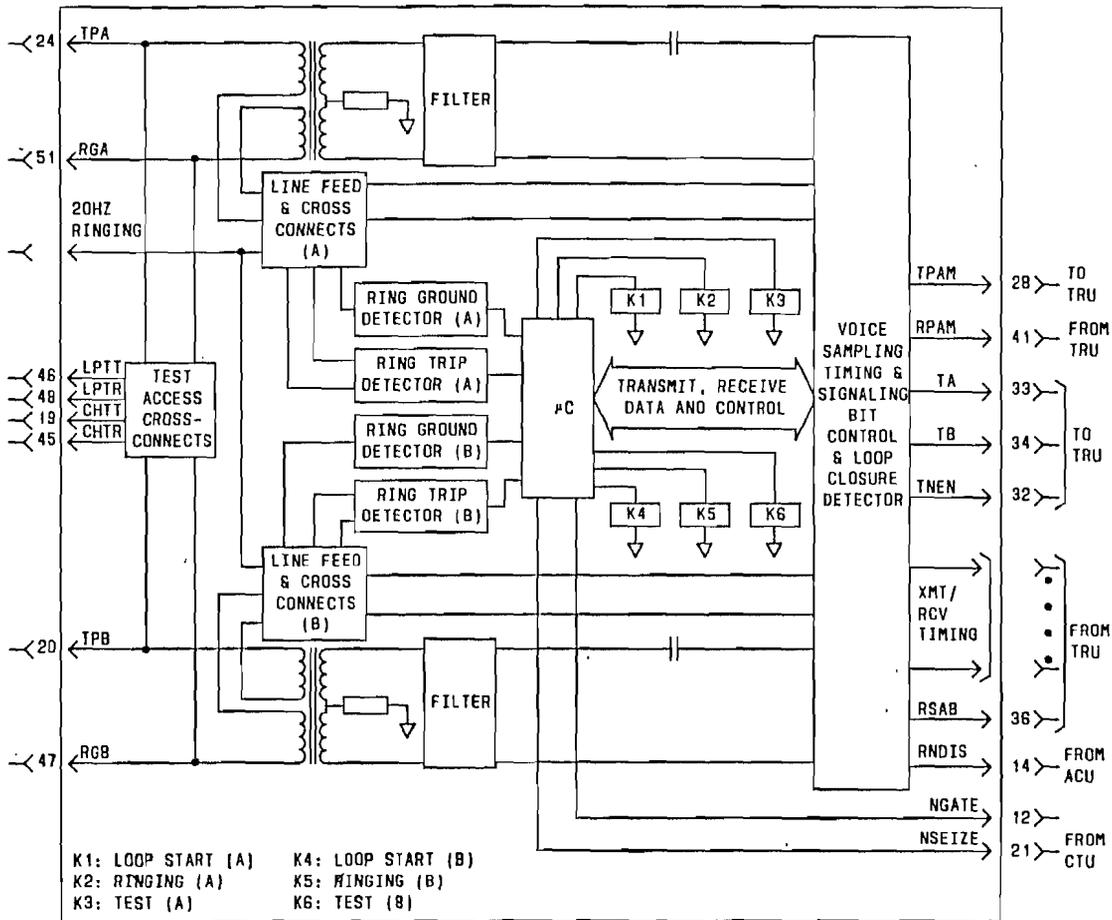
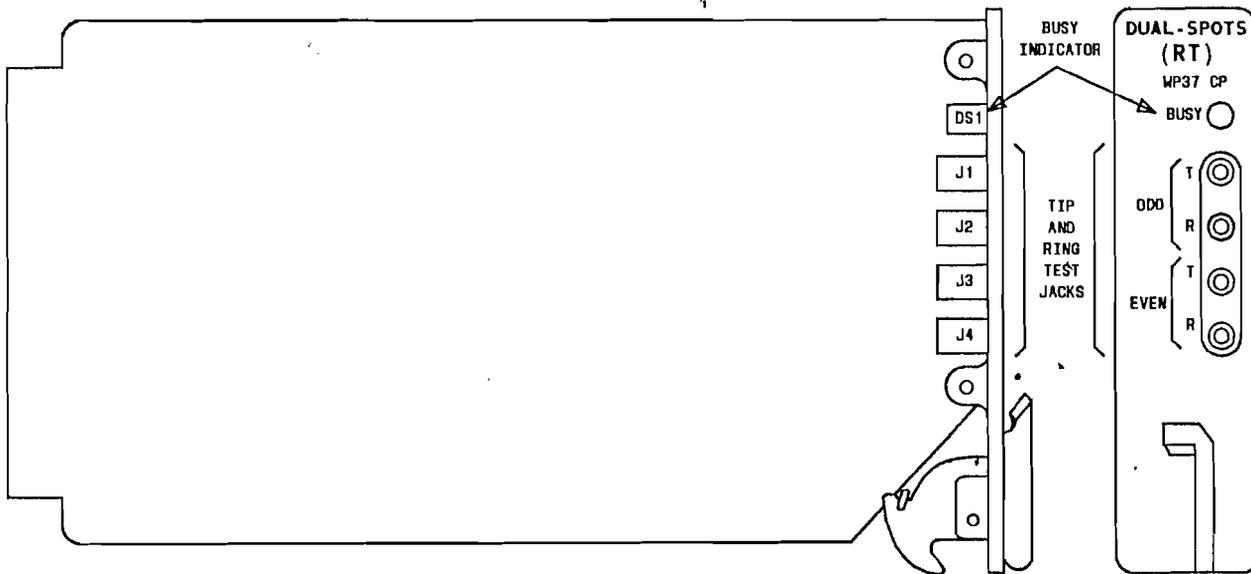

Fig. 1 — WP37 Functional Diagram
Fig. 2—WP37 Board and Faceplate Diagram
vides two channels per plug-in and is testable with the pair gain test controller (PGTC). The WP37 is located in the remote terminal (RT) bank. When the SPOTS WP36 CU is in place at the central office terminal (COT) bank, the WP37 will provide open switching interval protection and forward disconnect capabilities. Figure 1 is a functional block diagram of the unit, and Fig. 2 shows the board and faceplate features.